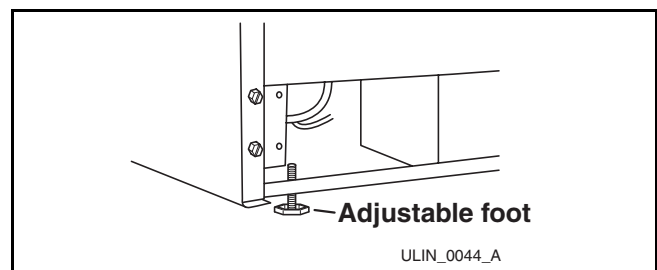

Figure 28
5. If the unit is not level, adjust the feet on the corners of the unit as necessary (**Figure 28**).